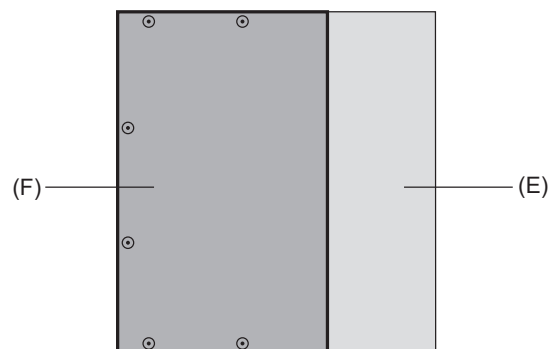

Fig. 10
- To avoid dew condensation, use insulated screws in the places marked with circles in Fig.10.